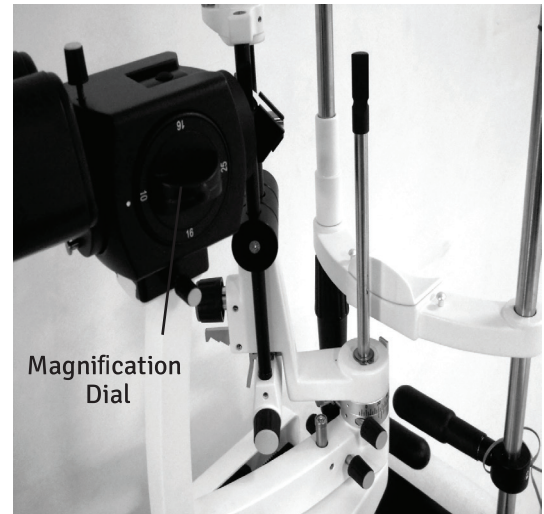

Figure IN-5 Illumination Angle
12. The angle between the illumination system and the microscope can be varied between 0° and 90° to either the left or right. Refer to figure IN-5.
14. Magnification is altered by rotating the Magnification Dial on the Microscope Assembly. Refer to figure IN-5.